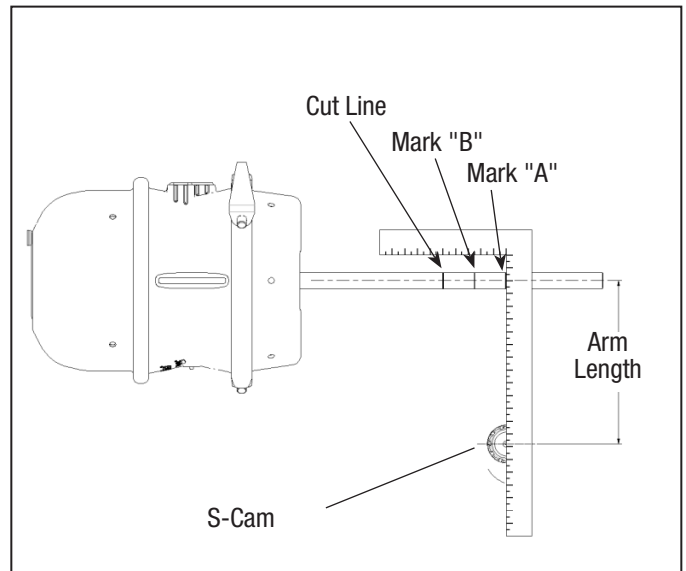
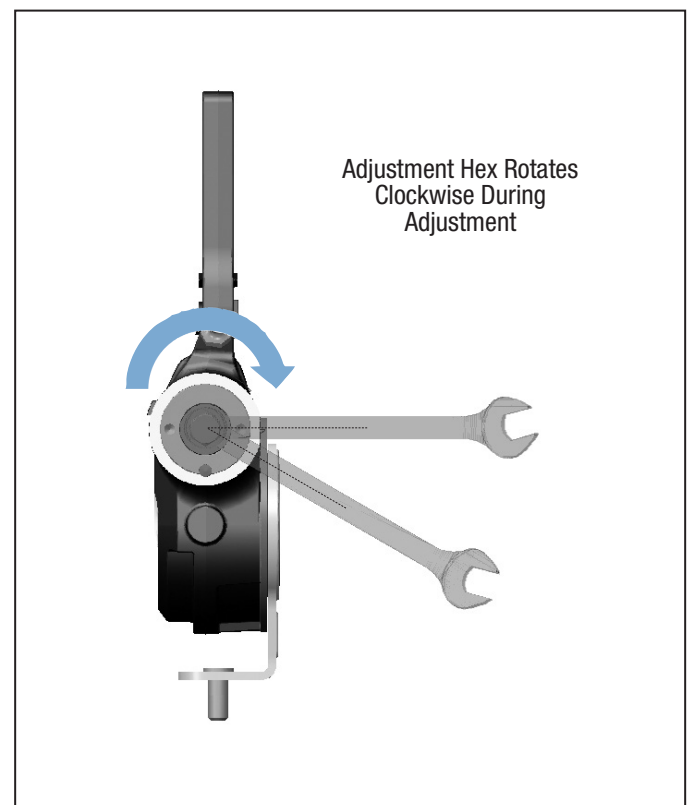

Figure 9 – Threaded Pushrod Measurement
Figure 10 – Adjuster Testing
1. Determine the arm length of the slack adjuster by measuring from the center of the arm bushing to the center of the spline. This distance should be equal to the distance from the centerline of the brake actuator pushrod to the centerline of the S-Cam (See Figure 9).
3. Using a square, mark the pushrod at a 90° angle to the S-Cam (Figure 9, Mark "A"). From "A" measure off the length of the clevis, recorded in Step 2, on the pushrod advancing toward the mounting surface of the brake actuator and mark the pushrod. (Figure 10, Mark "B").
2. Using a straight edge, scribe a line across the manual adjustment hex head and slack adjuster body with a paint marker of a color that is easily visible. A box wrench can also be placed on the hex in the horizontal position. (Refer to Figure 10).